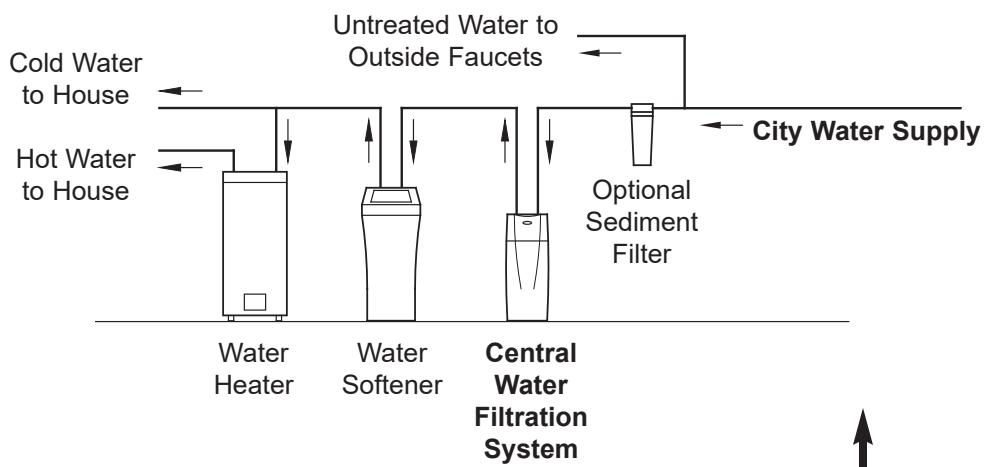
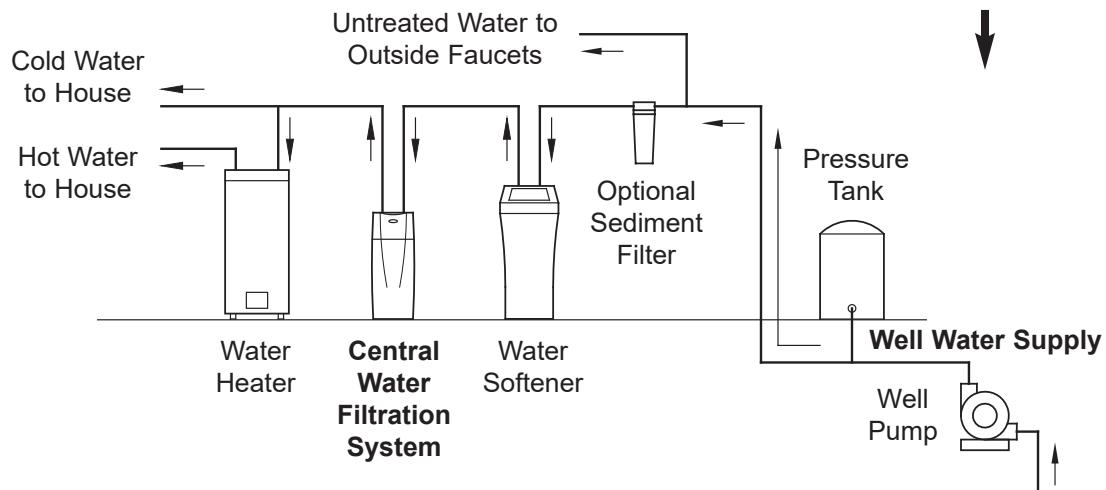

FIG. 1A
FIG. 1B
incoming water supply and the water softener, if one is being used (See Figure 1A). If the home has well water, reverse the order of the Central Water Filtration System and the water softener (See Figure 1B).
- Do not install the Central Water Filtration System on a hot water line (See Figures 1A & 1B).